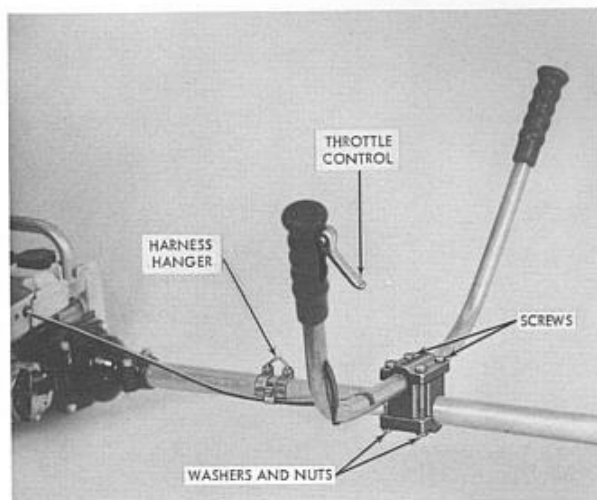

Figure 9. Handle Bar Installation
7. Assemble the handle bar on the drive shaft housing as shown in Figure 9 with four